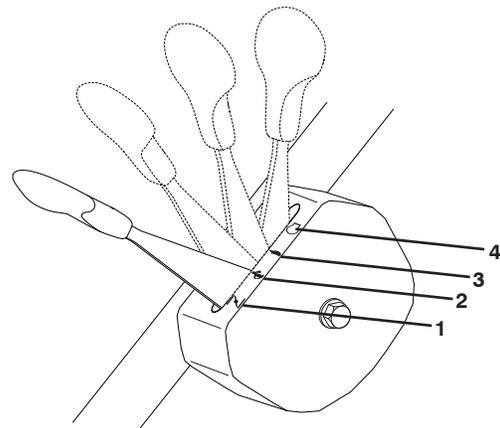

Figure 16
- To stop engine, move handle mounted throttle/choke control lever to STOP position. Wait until blade and all moving parts have stopped and turn fuel valve to OFF position if you do not intend to restart the engine soon (Figure 16).